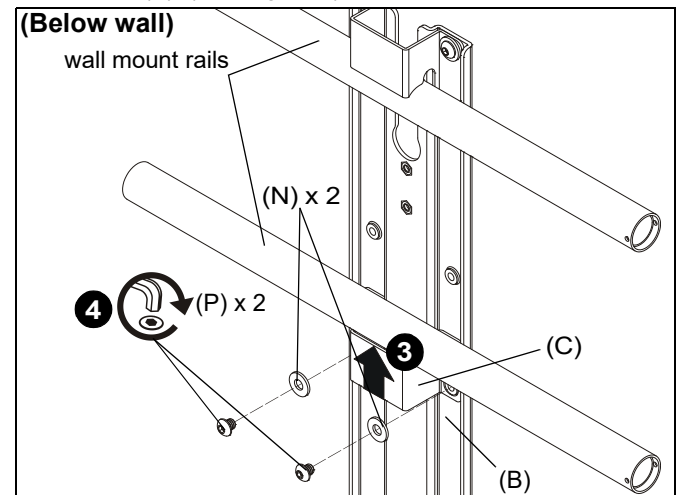

Figure 4
3. Slide second shelf bracket (C) underneath lower rail on wall mount, lining up holes on shelf bracket (C) to main bracket (B). (See Figure 4)
4. Use two 1/4-20 x 1/4" button head cap screws (P) and two large washers (N) to secure shelf bracket (C) to main bracket (B). (See Figure 4)